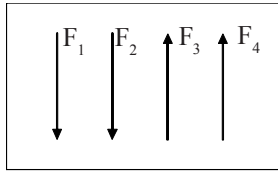

Fig.2.6
- e) Coplanar non-concurrent parallel forces: The forces, whose line of action lie in the same plane, do not meet at one point but parallel to each other are called as coplanar non-concurrent parallel forces (fig 2.6)